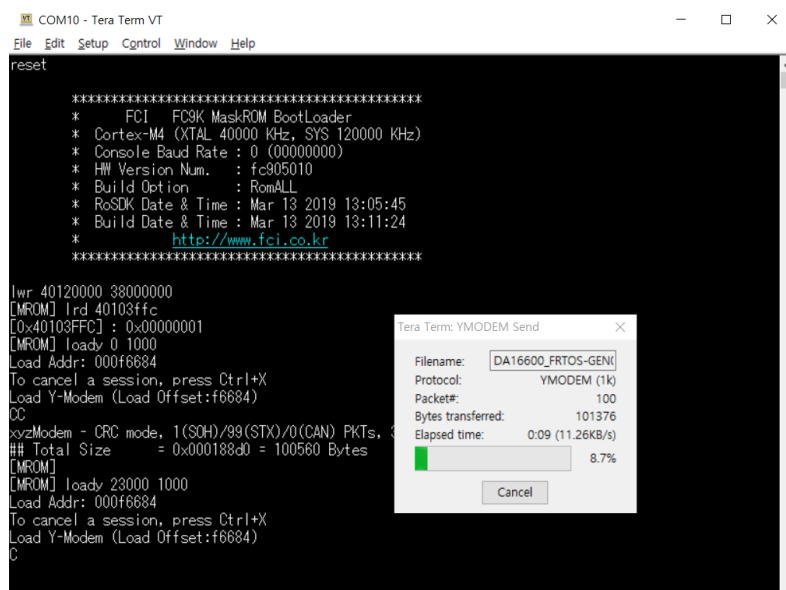

Figure 26: Download RTOS image
- RTOS image is downloaded automatically (see Figure 26).